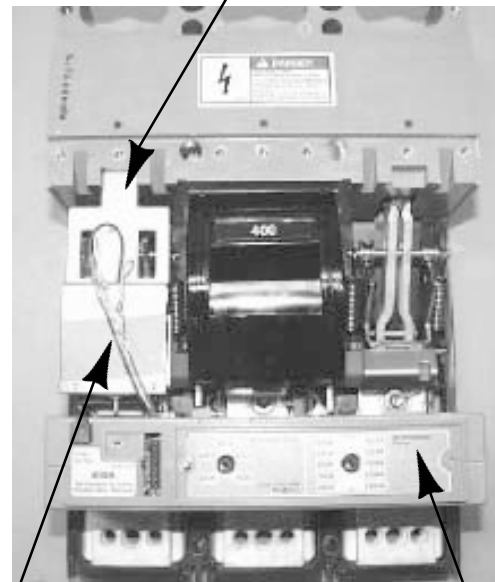

Fig. 3
6. **Caution:** The electronic trip unit has a magnetic latch, which is pre-wired to the trip unit and must be installed in the left hand accessory slot **(Figure 3)**.